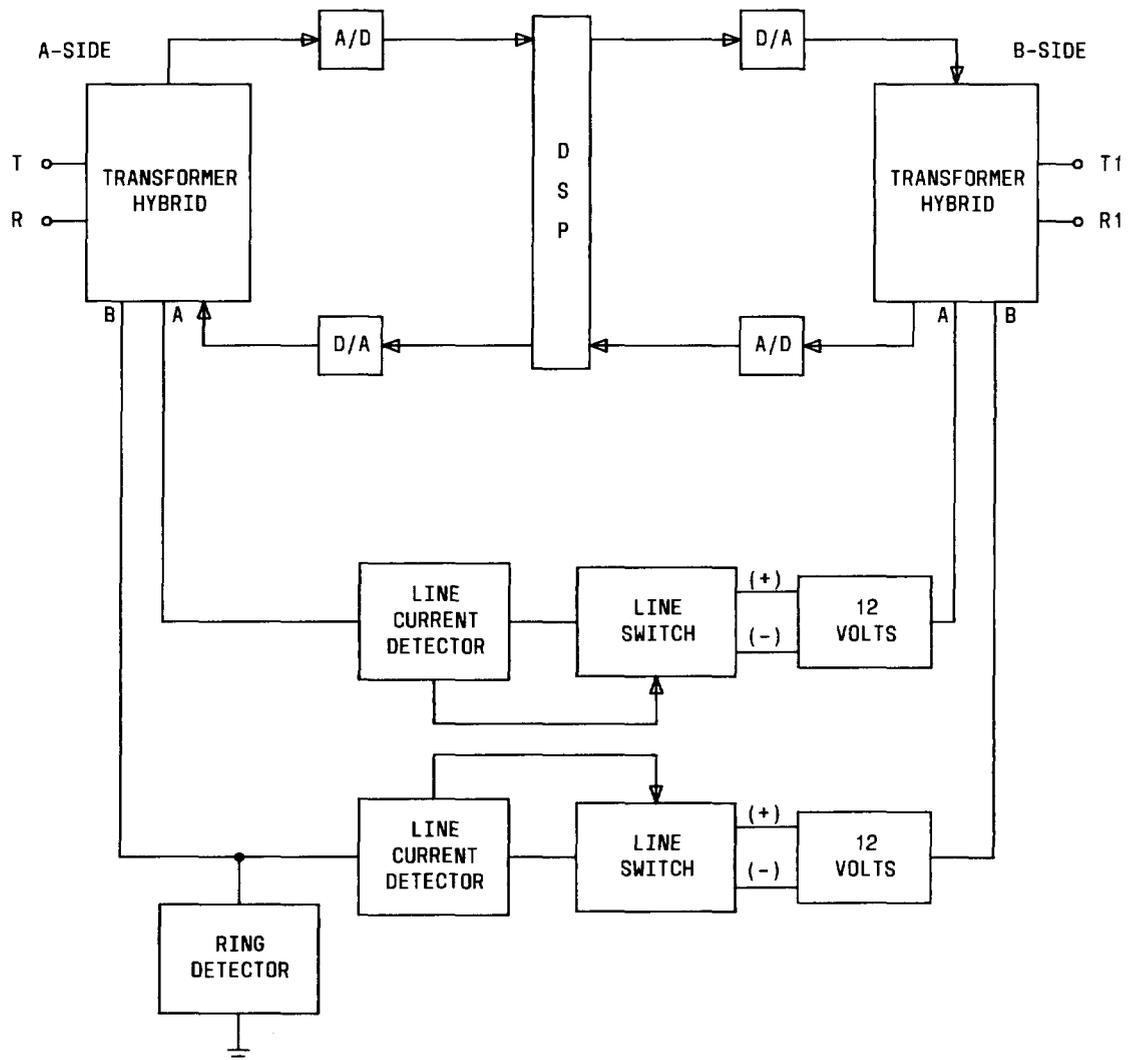

Fig. 2—J99343GR 2-2 Wire CFU—Block Diagram
2.02 A block diagram of the J99343GR CFU which interfaces analog with digital electronic circuitry is shown in Fig. 2. This CFU provides continuous automatic balancing techniques which are used to cancel the return echo signal regardless of the line condition or impedance changes. To accomplish this feature, the input analog signals are converted to digital signals which are analyzed by a DSP (digital sig-
2.14 The five principal parts of the LSE portion of the J99343GR CFU, shown in Fig. 2, are as follows: